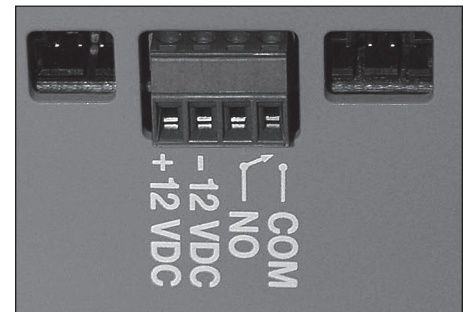

Figure 13
**Note:** If remote alarm detection is desired, connection to the alarm circuit can be made using the normally open contacts provided on the terminal strip. These contacts are rated for 150mA. Do not exceed this amp range or damage to the Control Unit can occur. Exceeding the current rating will void the warranty. **Figure 13**